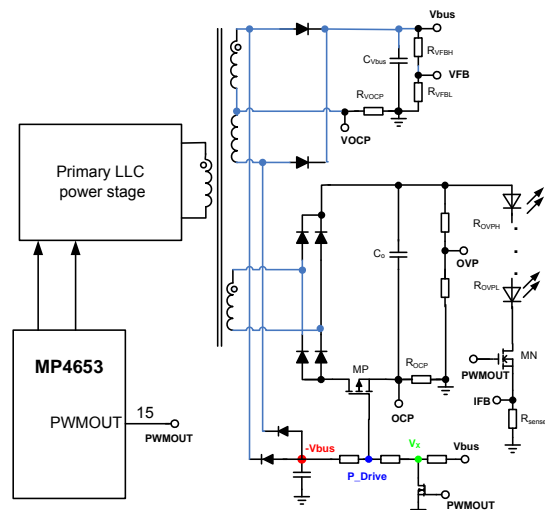
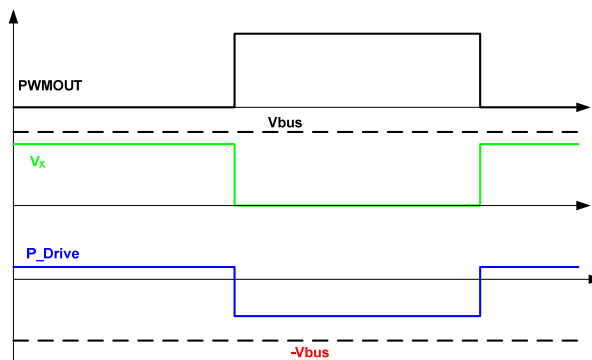

Figure 5A—PWMOUT for the P MOS Driver
Figure 5B—Scheme of the PWMOUT Driving the P MOS
The PWMOUT signal is also used to control the external P-MOS (MP) for protection, as shown in figure 5A. Figure 5B shows the operating scheme of this driving circuit. A negative voltage source ($-V_{bus}$) is generated from the secondary winding of DC bus stage. A pulse waveform at " V_X " is generated through the PWMOUT signal. By summing the negative voltage source and V_X , a pulse waveform with a negative magnitude is generated on "P_Drive" (the P-MOS gate) and is used to drive the P-MOS.